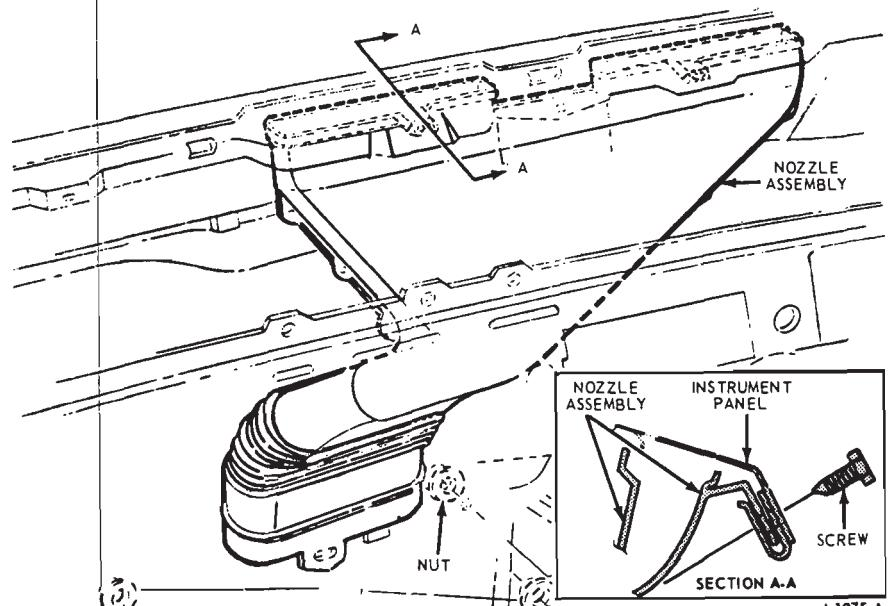

FIG. 41—Defroster Nozzles—Montego and Fairlane
2. Remove the defroster nozzle retaining clip screw (Fig. 41 and 2).